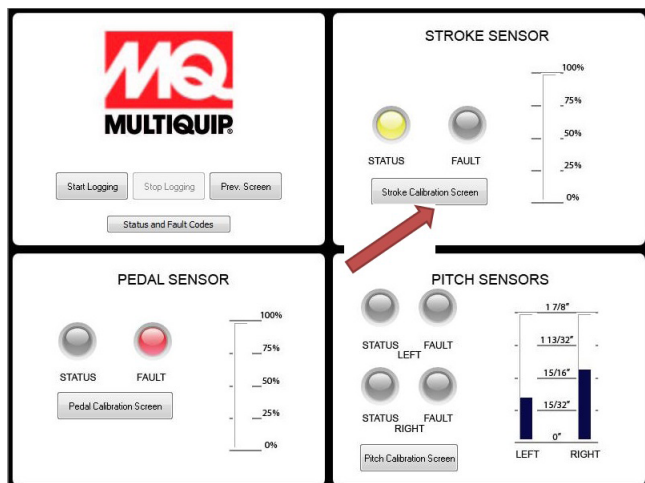

Figure 35. Calibrate Stroke Sensor
5. Click "Calibration" button in STROKE SENSOR section (Figure 35).